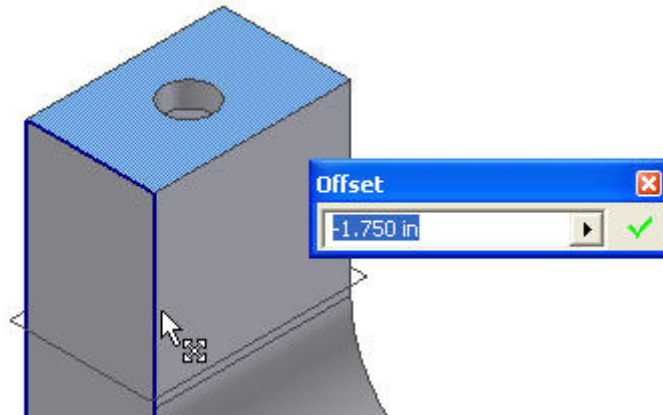

Figure 19
16. In order to begin the sweep a new work plane must be created. Create an offset work plane parallel to the top surface down at a distance of -1.75 in. as shown in Figure 19.